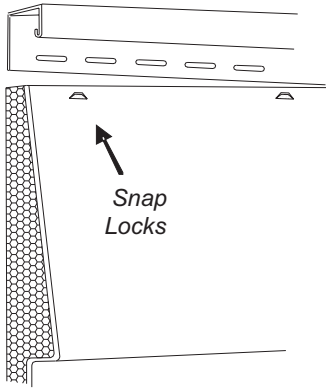

Figure 10.
- **Use a crimping or Snap Lock Tool.** If this method is used, make certain that the panel “snaps” into the receiving J. Depending upon where the rip cut falls the receiver may need to be 1-? ”J or ?” J. In some cases, a small strip, approx. 1-1/2” wide X 1/8” to 1/4” thick, placed in the J prior to the installation of the panel, is needed to assure positive engagement of the crimps (Make certain the panel fits snugly in the receiving channel). Measure from the soffit to the bottom of the top lock on the previous course of siding. Subtract 1/4”. Mark and cut the top course panel. Crimp the panel approximately every 6” and install the panel (Fig.10).